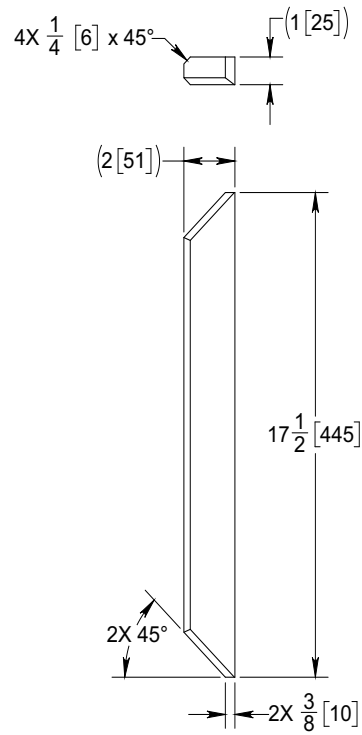

Figure 4: Plate P/N: DT27200-3
- Using ASTM A36 material, fabricate one (1) plate (item 2 on Table 1 on page 2) as indicated in Figure 4.